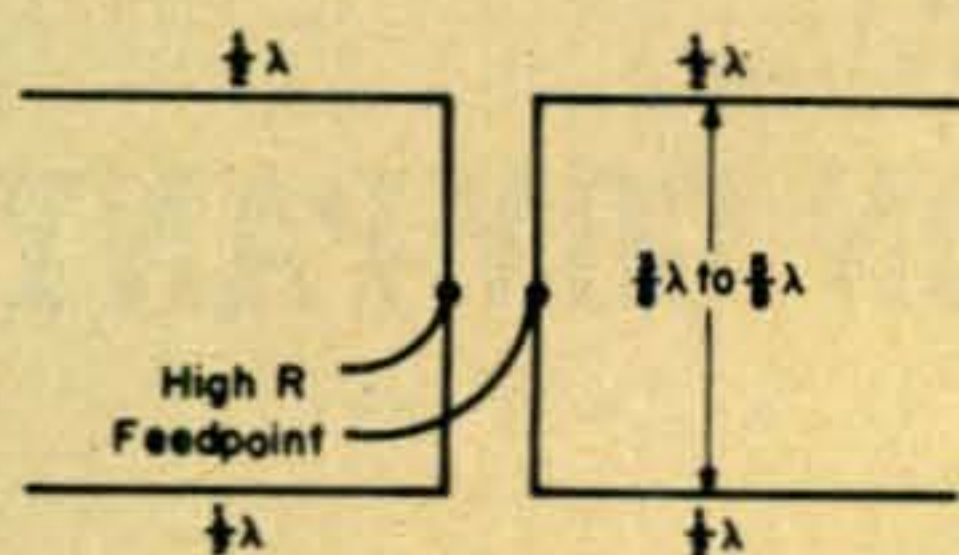

Fig. 1—Conventional lazy-H antenna configuration.
**S**OME time ago a wire type antenna which the author had erected came down during a storm. The supports for the antenna, being two tall trees, fortunately didn't come down. It was desired to quickly erect a directive antenna for 10 meters and the author's attention was directed by another amateur to the old standby lazy-H design (fig. 1). It is basically a one-band antenna of moderate gain, although with resonant feeders multiband operation is possible.